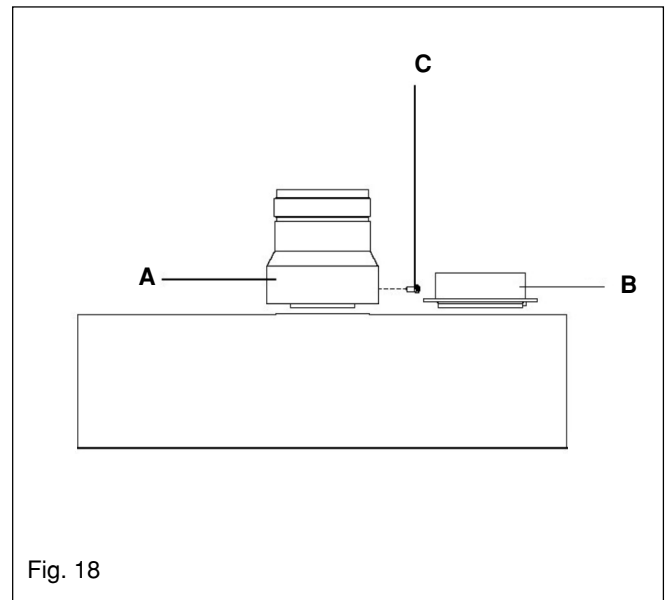

Fig. 18
4.5.6.1 INSTALLATION OF TWIN ADAPTOR KIT (see fig. 18 & 19)
- Insert the exhaust connection manifold (A) onto the appliance flue outlet.
- Remove the blanking plate (located to the right of the appliance flue outlet) and – using the same screws – install the air inlet plate (B).
- Using the hole in the exhaust connection manifold as a guide, drill a 3mm hole in the appliance flue spigot and secure the exhaust manifold connection to the flue spigot using the screw provided (C).